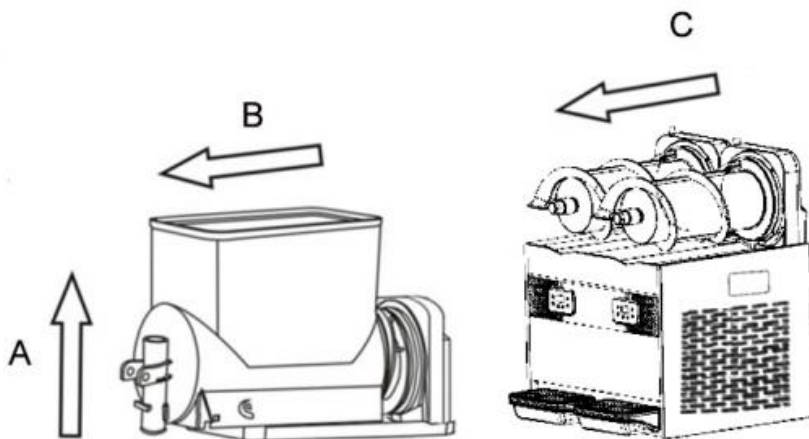

Fig.10
2. Take out the stirrer and the seal of stirrer. See fig.10.